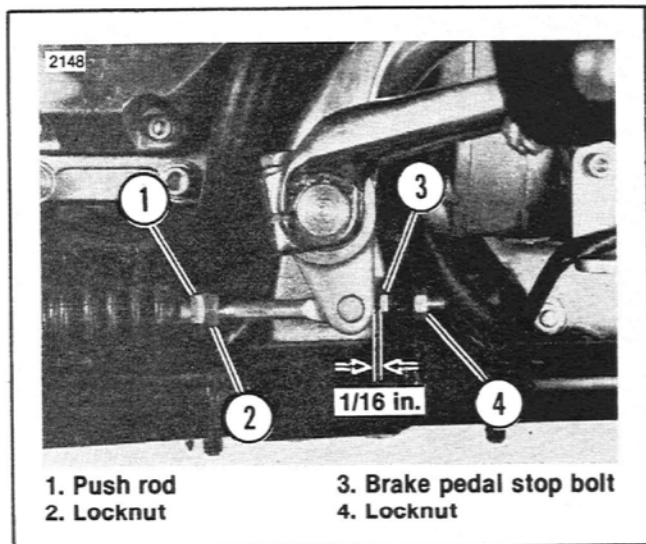

Figure 20. Adjusting Brake Pedal Height and Free Play — FXRS, FXRT
2. See Figure 20. Loosen locknut (4) and turn brake pedal stop bolt (3) in or out to achieve proper pedal height.
3. Tighten locknut (4) while holding brake pedal stop bolt (3) in place.